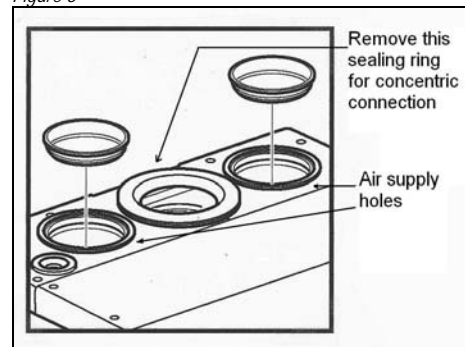

Figure 4
2. Remove the sealing ring around the flue discharge in the appliance (as shown in Fig 4).